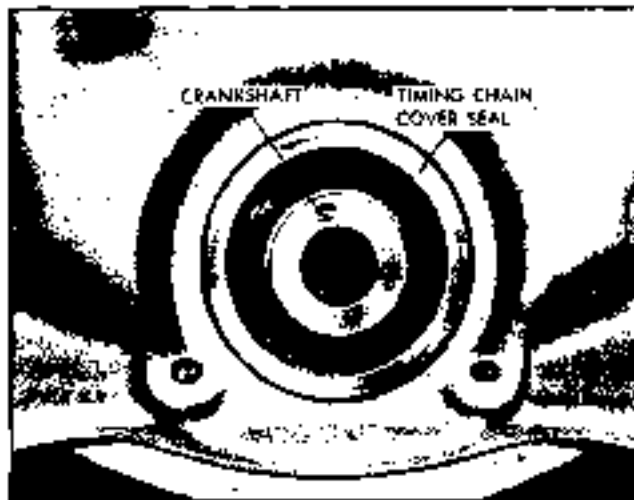

Fig. 6-95 Timing Chain Cover Seal
4. Remove timing chain cover seal by prying out of bore with a pry bar (Fig. 6-95).